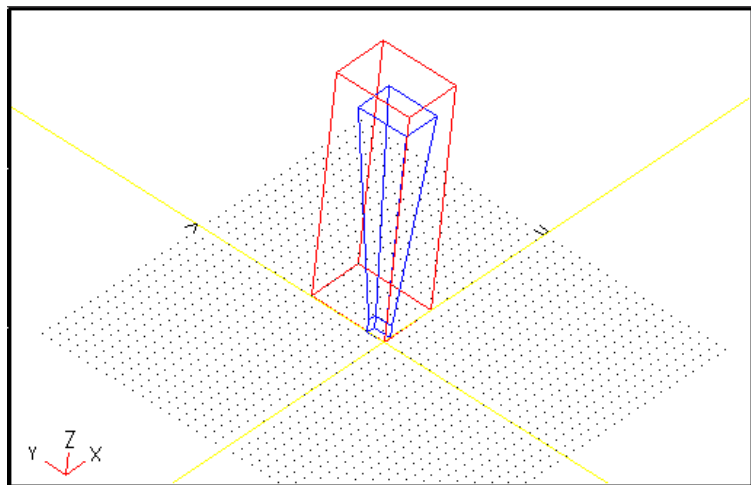

Figure 31 One-Quarter of the Horn Antenna
- 6 Select the ZX plane from the Plane List. Then click **OK**. The horn structure is sliced again, this time along the ZX plane, to leave only one-quarter of the structure, as in Figure 31.